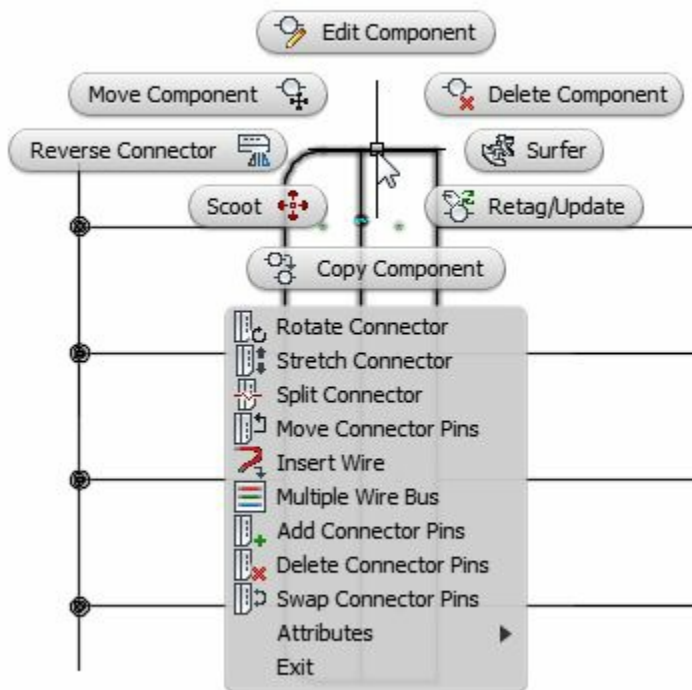

Figure-33. Menu for connector
- Select the connector and right click on it. A shortcut menu will be displayed as shown in Figure-33.